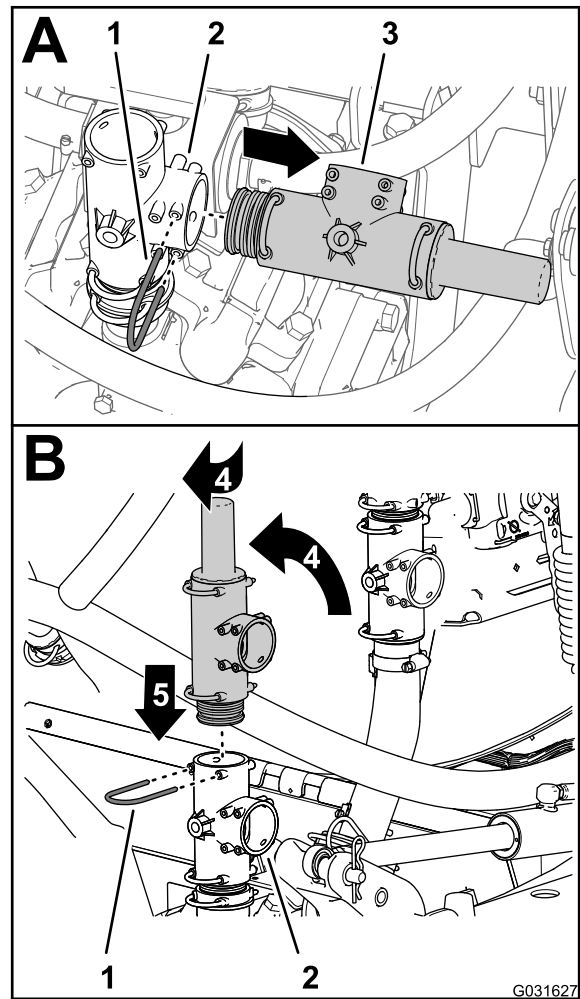

Figure 4
1. Remove the retainer that secures the pressure-relief valve to the T-fitting at the sprayer pump, and remove the relief valve (Figure 4).
2. Rotate the pressure relief valve up as shown in Figure 4.
3. Insert the pressure-relief valve into the top of the T-fitting until the valve is fully seated (Figure 4).